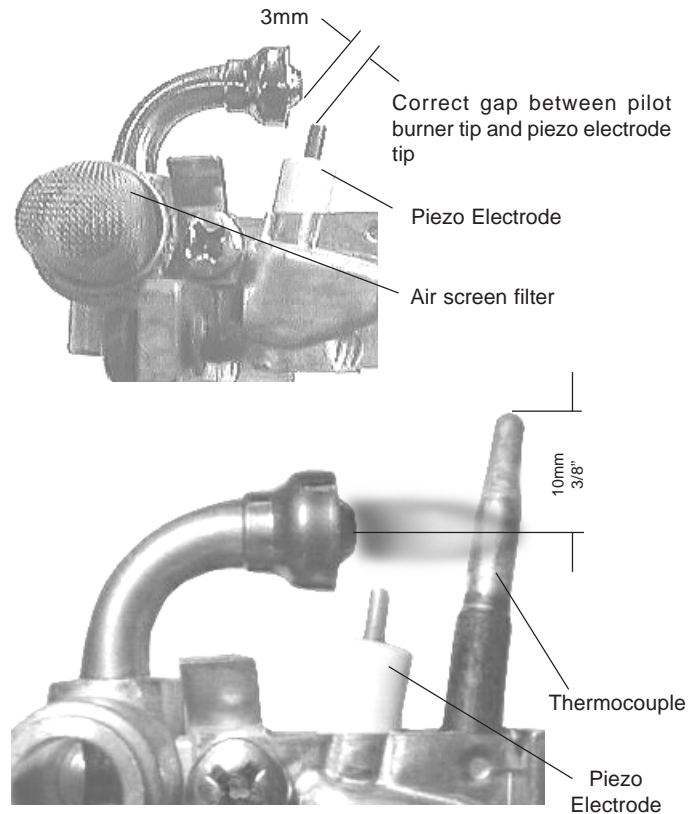

Fig. 8 - Characteristic Pilot Flame
Pilot Flame: The pilot flame should burn with a clean sharp blue flame and should resemble the diagram in Fig 8. If the flame is yellow, or if the pilot knob has to remain depressed for a long time in order to keep the pilot lighted, the pilot burner and or the pilot burner orifice may need to be cleaned (NG), the orifice may need to be replaced (LP), and or the air screen may need cleaning. The pilot flame should envelop approximately 10 mm (3/8") of the tip of the thermocouple. If it is too small, the pilot burner must be cleaned. To obtain a spark, the position of the Piezo igniter electrode should be approximately 3 mm (1/8") from the pilot burner tip.
The Pilot flame should be a sharp blue flame and aimed at the tip of the thermocouple so that it envelops 10 mm (3/8") of the thermocouple tip. Pilot flame has to be properly aimed at the thermocouple. See Fig 8.